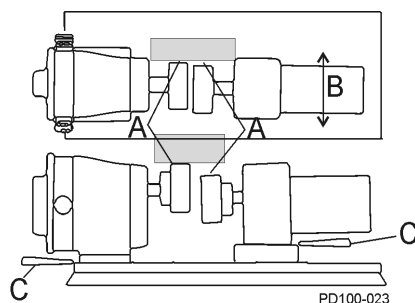

Figure 27 - Check Parallel Alignment
2. Using a feeler gauge at location "A" in Figure 27, determine the direction and amount of movement needed (Figure 27, item B).